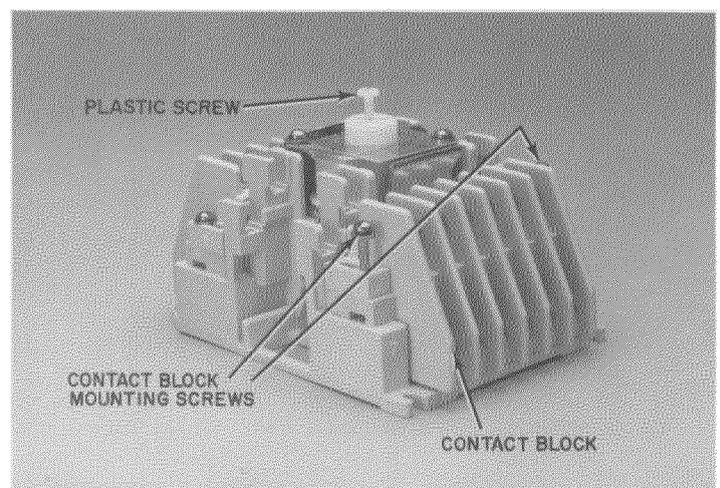

Figure 3.
3. Place contact block in position on the base as shown in Figure 3 and tighten the two mounting screws to 10 inch-pounds.